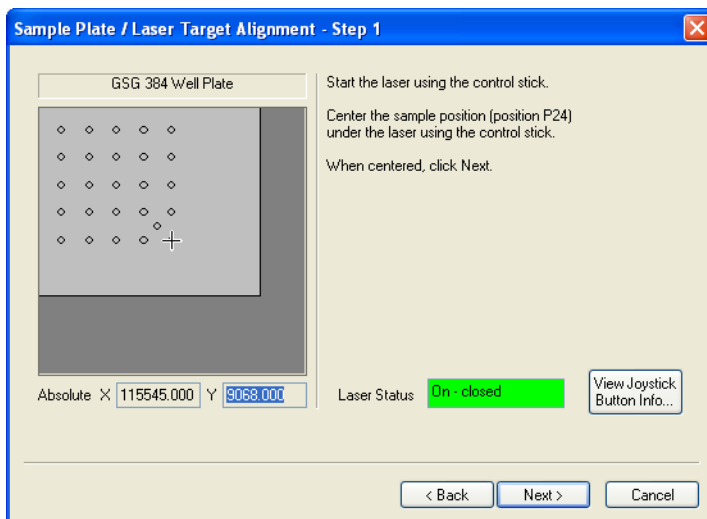

Figure 4-4 Sample Plate Alignment - Step 1 Page
2. Click **Next**. The Sample Plate / Laser Target Alignment - Step 1 page opens (Figure 4-4).
**Note:** If the alignment fails, you may have aligned the incorrect spots on the plate. Repeat the procedure, but use the control pad to verify that you are aligning the spots specified in each page of the Sample Plate Alignment Wizard (Figure 4-4).